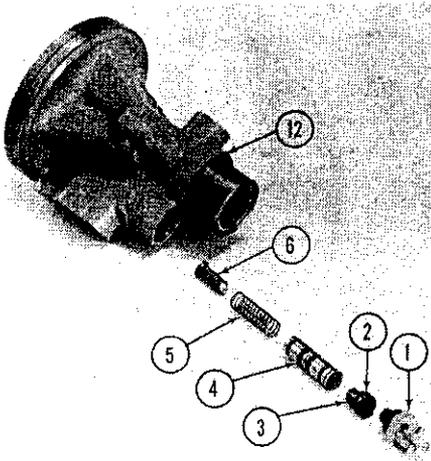
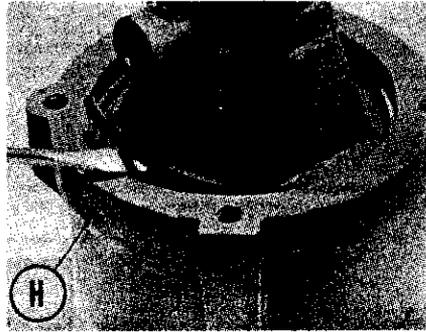
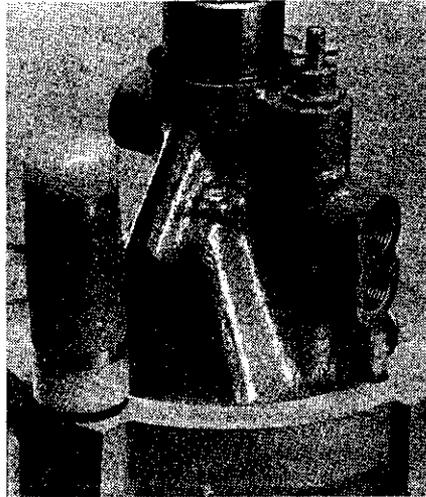
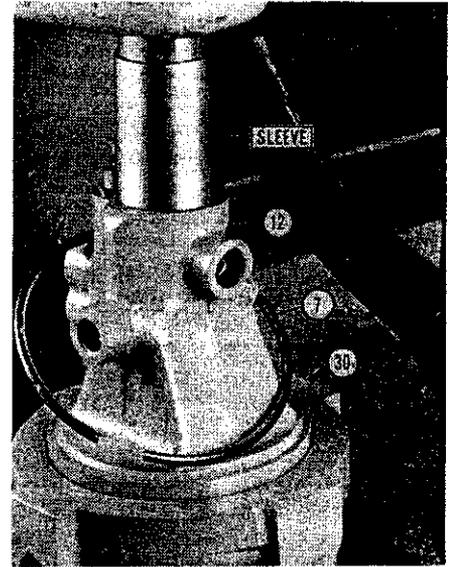

Fig. 48—Exploded view of Hydramotor housing and blocking valve components. Blocking valve can be removed without disassembly of Hydramotor.
Fig. 49—To remove cover retaining snap ring, drive pin punch through hole in cover to disengage snap ring from groove.
Fig. 50—In event coil pressure plate spring does not push cover from housing, tap alternate mounting lugs on cover with soft face mallet as shown above.
Fig. 51—Using sleeve and arbor press to push housing into cover to allow installation of the cover retaining snap ring (7).
Reverse removal procedure to reinstall the steering motor unit using new "O" rings when reconnecting fluid lines. Before reinstalling fuel tank, run engine on nurse tank to fill and bleed the power steering system as outlined in paragraph 54. After being sure no fluid leakage is occurring, reinstall fuel tank. **CAUTION:** The blocking (reaction) valve adjuster (1—Fig. 48) must be in position shown in Fig. 50 before reinstalling fuel tank.
**60. R&R BLOCKING SPOOL (REACTION) VALVE.** The blocking spool valve and related parts can be removed and reinstalled after the Hydramotor steering unit has been removed as outlined in paragraph 59. Refer to Fig. 48 and proceed as follows:
To reassemble, install parts in bore of housing (12) as shown in exploded view, renewing the "O" ring (2) on plug (3) and tightening adjuster nut to a torque of 10-15 Ft.-Lbs. Note: The adjuster (1) is not accessible after tractor is fully assembled; thus, the adjuster must be in position shown in Fig. 50 when unit is being reinstalled.
With unit removed from tractor as outlined in paragraph 59, check to see that end gap of snap ring is near hole in cover as shown in Fig. 49; if not, bump snap ring into this position with hammer and punch. Insert a pin punch into hole and drive punch inward to dislodge snap ring from groove. Hold punch under snap ring and pry ring from cover with screwdriver. Usually, the coil spring (27—Fig. 46) will push housing from cover; if not, bump cover
loose by tapping around edge with mallet as shown in Fig. 50.
To reinstall the cover retaining snap ring, housing must be held in cover against pressure from spring. It is recommended that the unit be placed in an arbor press and the housing be pushed into cover with a sleeve as shown in Fig. 51. CAUTION: Do not push against end of shaft (14—Fig. 46). Place snap ring over housing before placing unit in press. Carefully apply force on housing with sleeve until flange on housing is below snap ring groove in cover. Note that lug on housing must enter slot in cover. If housing binds in cover, do not apply heavy pressure; remove unit from press and bump cover loose with mallet as shown in Fig. 50. When housing has been pushed far enough into cover, install snap ring in groove with end gap near hole in the cover as shown in Fig. 49.